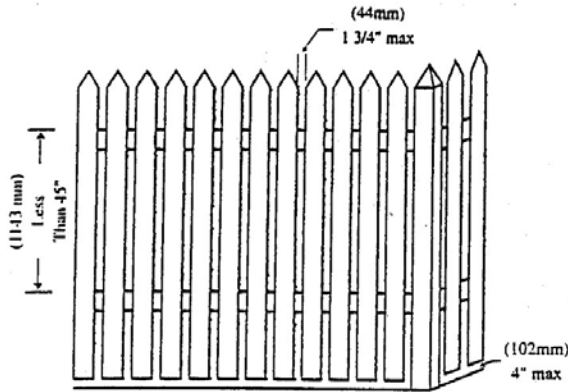

FIG. 1 IF HORIZONTAL MEMBERS ARE LESS THAN 45" (1143mm) APART. THE SPACE BETWEEN VERTICAL MEMBERS SHALL NOT EXCEED 1-3/4" (44mm).
- (1) Horizontal members must be located on the hazard side of the fence if the distance between the tops of the horizontal members is less than 45 inches. Space between vertical members shall not exceed 1 ¾ inches. (See Figure 1.)